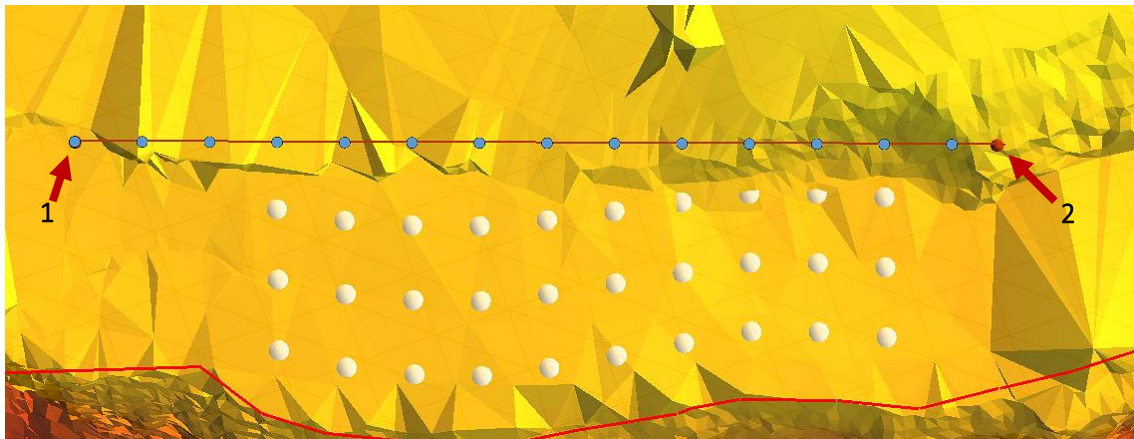

Fig. 185 - Creating new row
After defining the parameters, the user must click one time on the field (1) and then drag the mouse until the place where he wants to build the row (2) - Fig. 185.